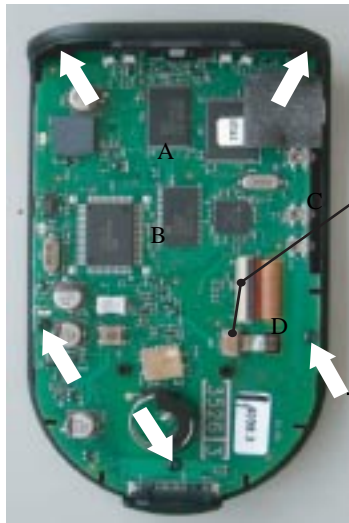

Fig. 1
1. Remove 5 x screw (Torx screw 2x6 ). see fig.1 - arrows